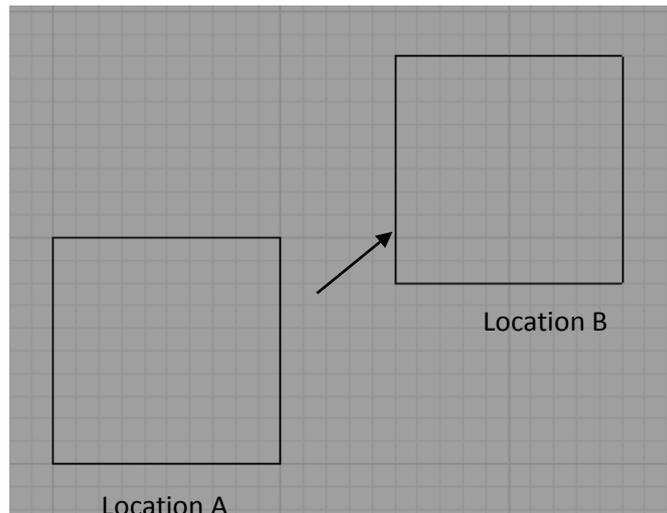

Figure 21. Moving an object.
1. **Move:** This tool is used for moving an object from one location to another. Let's take an example as shown in Figure 21. A rectangle in location A needs to be moved to location B.